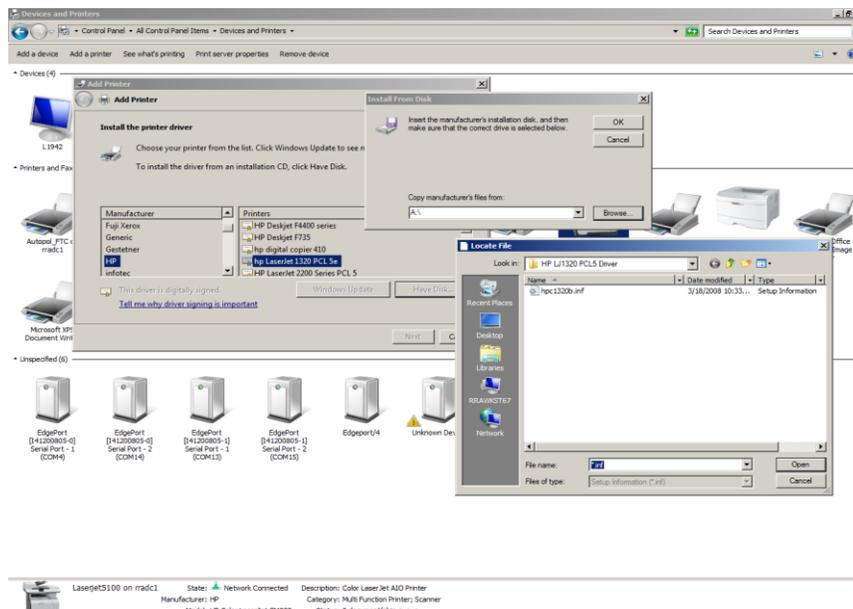

Figure 10-23 - Install custom Driver
- 9) Navigate to the USB storage device or network location where the drivers for the printer to be installed are located as shown in Figure 10-23.